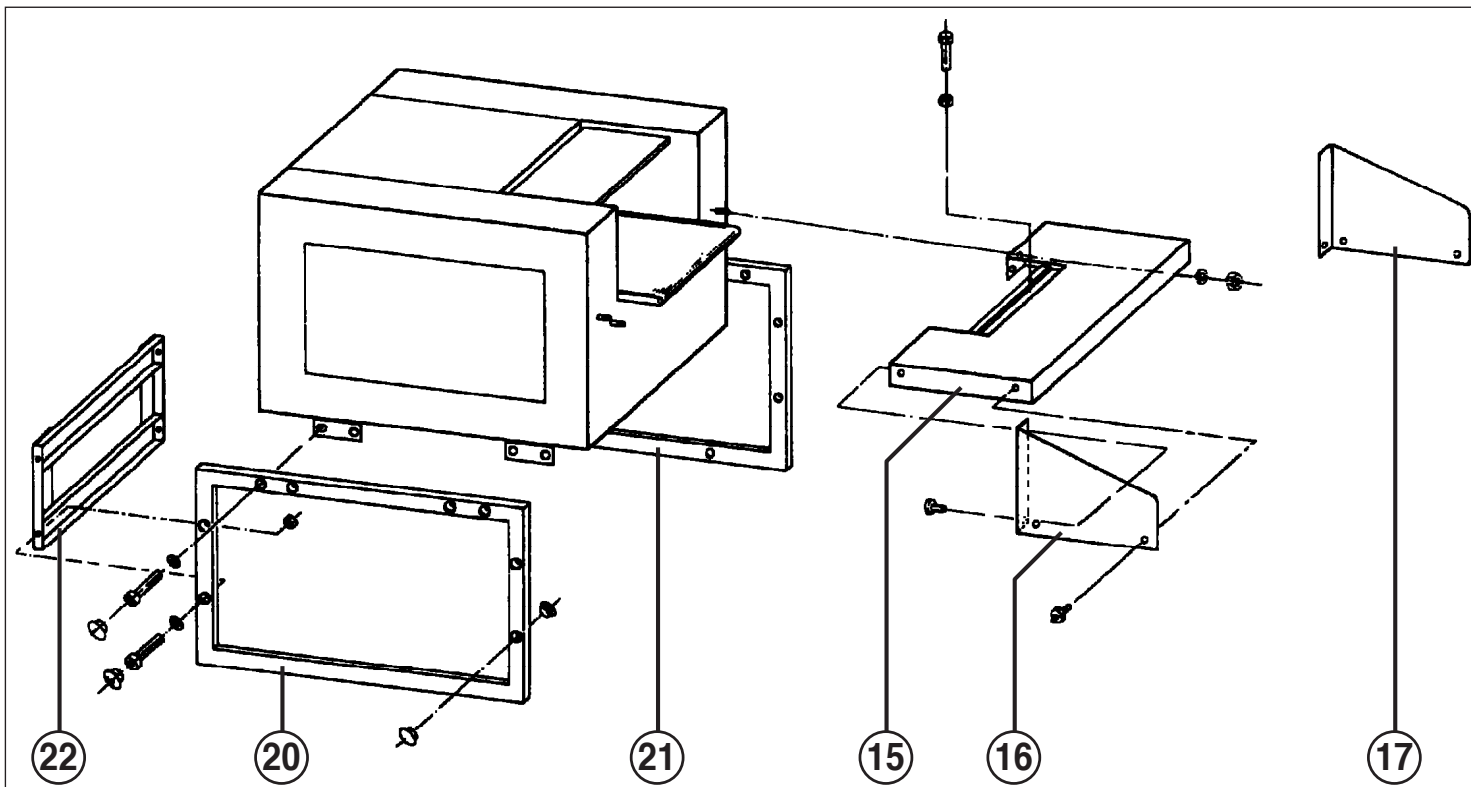

Fig. 1
- 15 = Feed table (fig. 1)
- 16 = Protective angle, left side (fig. 1)
- 17 = Protective angle, right side (fig. 1)
- 20 = Base frame, left side (fig. 1)
- 21 = Base frame, right side (fig. 1)
- 22 = Dividing panel (fig. 1)
BASE FRAMES (Figs. 1 and 2):
INSTALLING THE FEED TABLE (15) (Fig. 1):
4. Guide the power cable for the emergency-stop rail (14) through the sleeve on the front side of the housing, through the cable gland on the bottom of the switch box, and on into the switch box. Then connect the blue wire to terminal 20 and the brown wire to terminal 19.
PROTECTIVE ANGLES (Fig. 1):